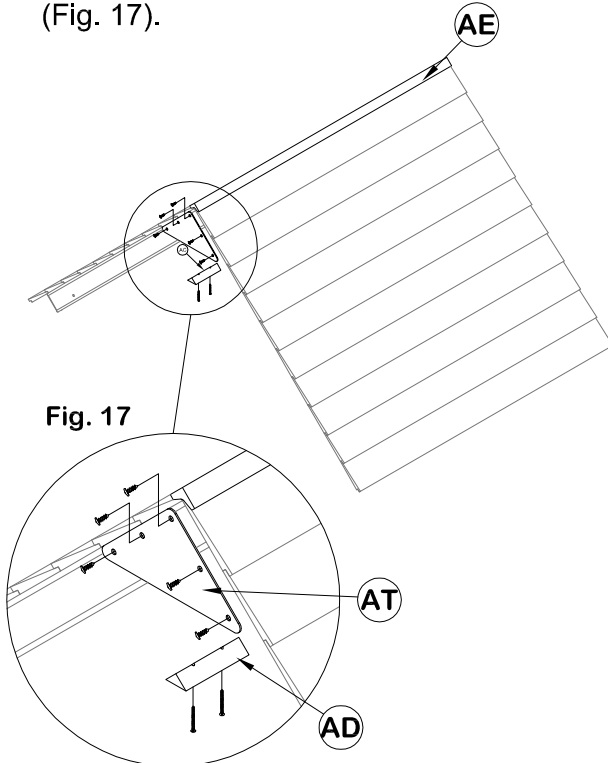

Fig. 17
Step 6: Bring roof halves together on top and attach fort plate AT to outside of each roof truss using 3/4" tapping screws (Fig. 17).
Step 7: Place roof ridge cap AE on top of roof and attach with roof swedges AD by running (2) 1 3/4" deck screws through swedge and into roof ridge cap from inside fort as shown (Fig. 17).
- (4) 'Z' - 2x4x046 3/4 Roof Trusses